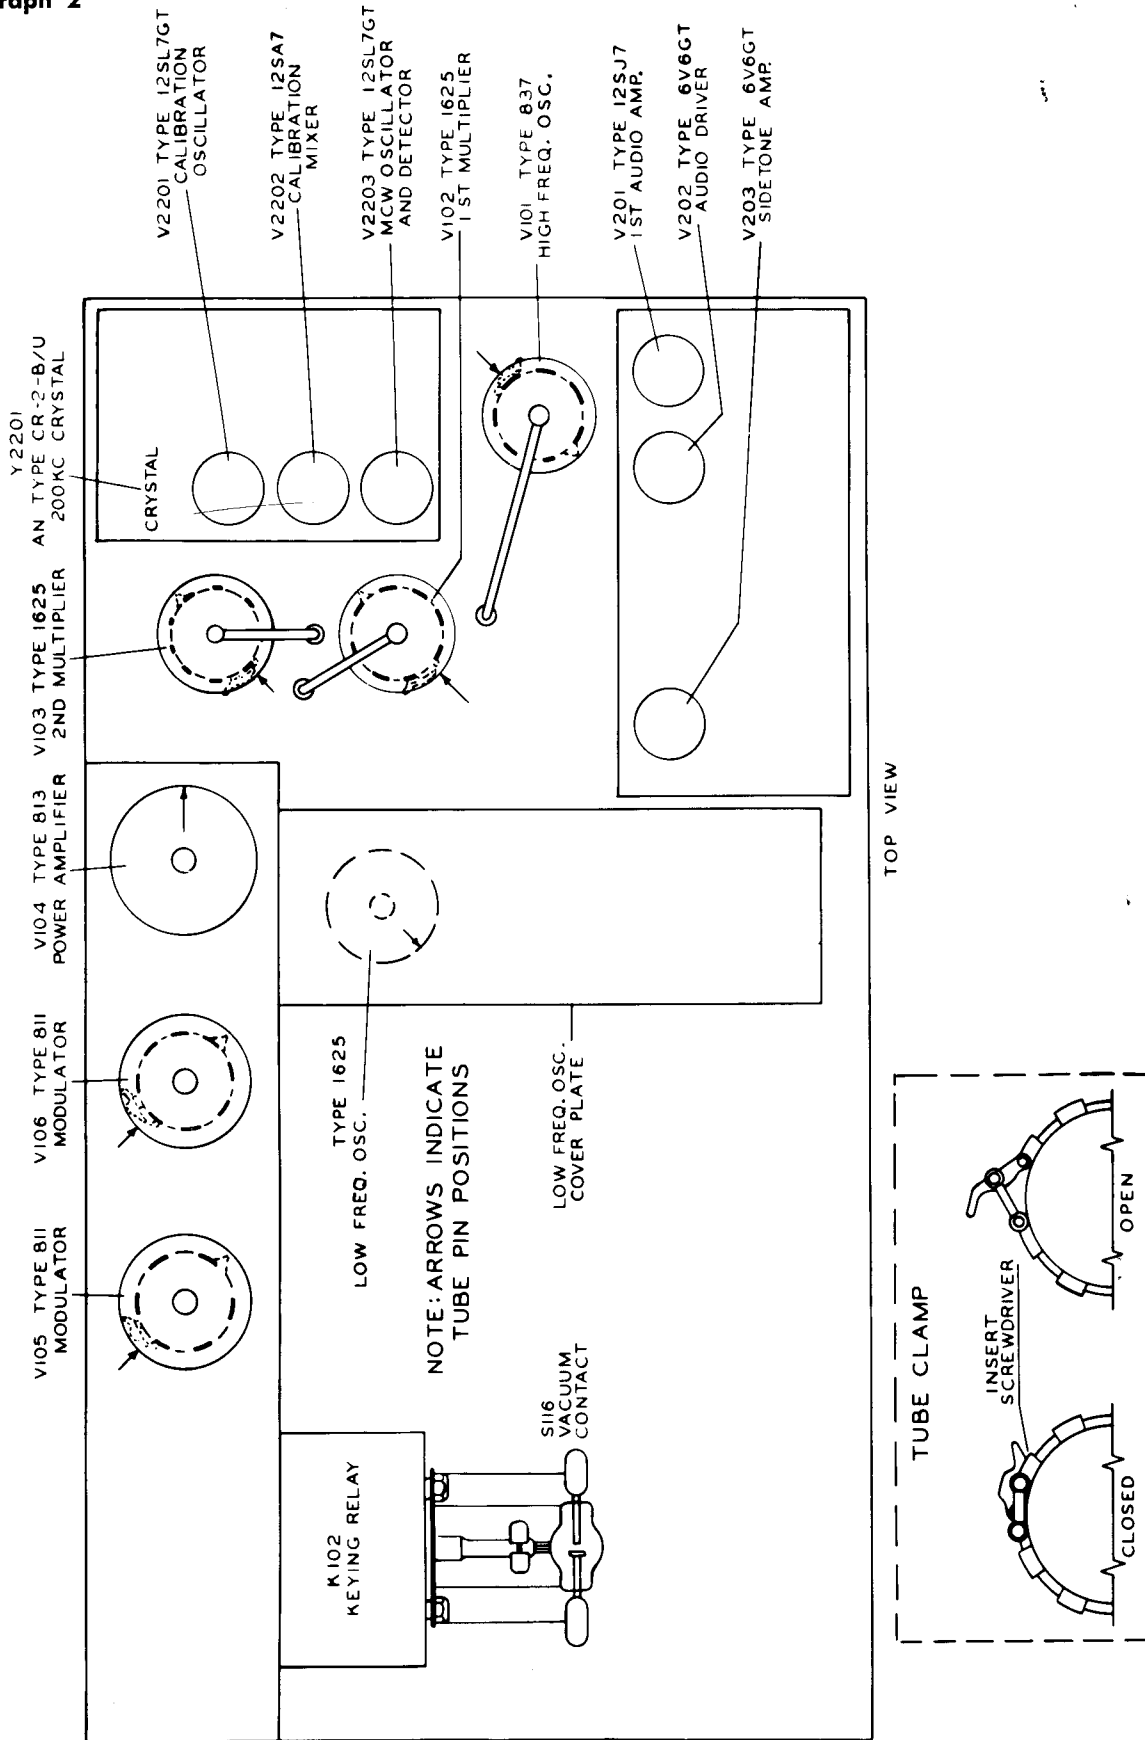

Figure 2-3. Tube Placement Diagram
(1) The tube placement diagram, figure 2-3. consists of an outline drawing of the top view of the transmitter unit with cover removed. This drawing shows the location of all vacuum tubes and illustrates the operation of the tube clamps. Also refer to figure 6-19. page 6-36.
(2) All plate lead connectors should be placed firmly on the plate caps of 811, 813, 837 and 1625 tubes and tube clamps locked.
(1) The quartz crystal has been carefully calibrated, checked and sealed in the holder at the factory.
(2) The Type CR-2-B/U (200 kc) Crystal Unit is designed to mount in a special two terminal receptacle.
(3) The crystal unit should be in the two prong receptacle in the extreme rear right-hand corner of the transmitter as illustrated in figure 2-3.
(4) Replace the cabinet cover and fasten securely with the clamping bolts.